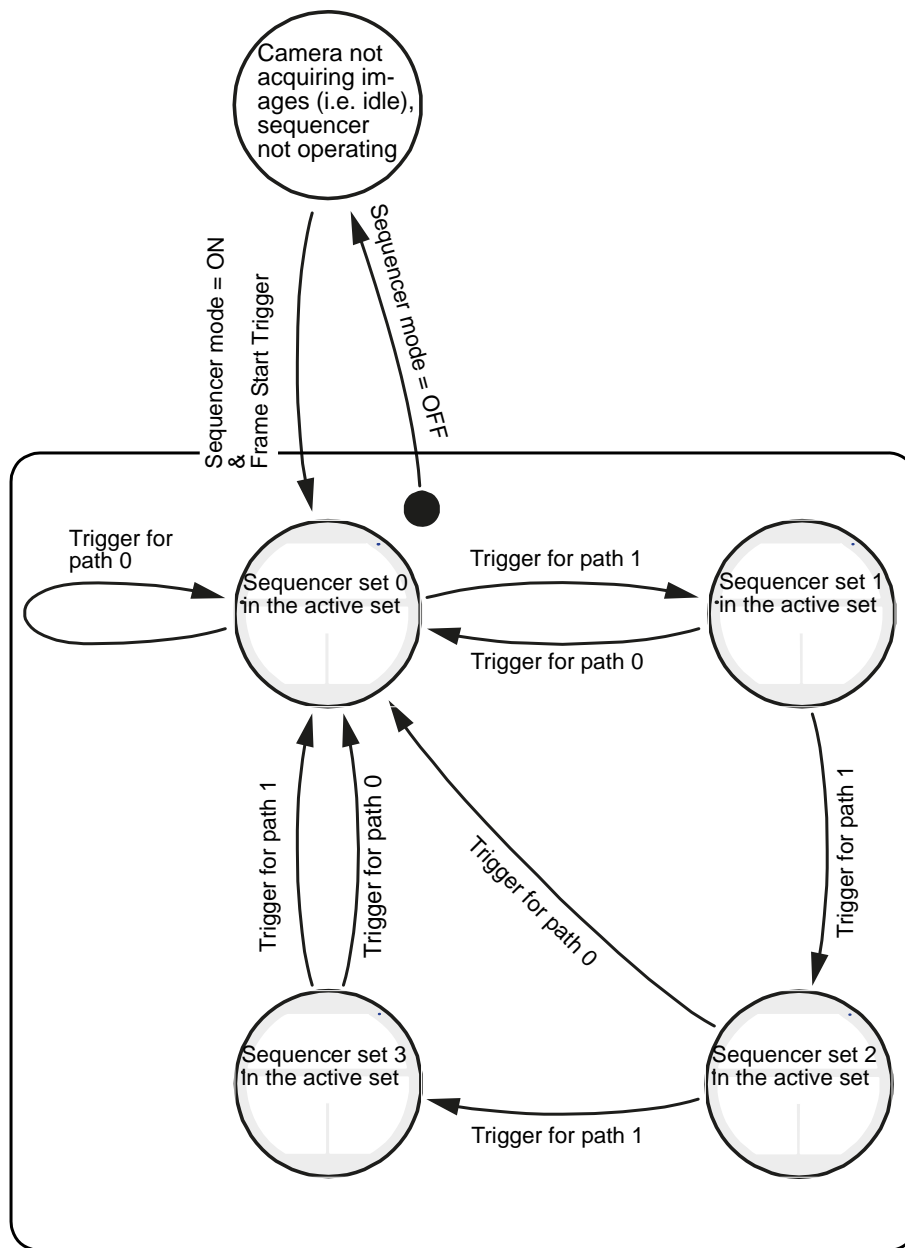

Fig. 87: State Diagram for the "Sequencer Mode" (Start and Operation; Four Sequencer Sets as an Example)
- a general overview employing a state diagram (Figure 87), and
In the state diagram (Figure 87) a total of four sequencer sets is considered. The diagram illustrates sequencer start, sequencer operation in "sequencer mode", and sequencer stop. Operation in "sequencer configuration mode" (see Section 8.6.1 on page 214) is not illustrated.
- As illustrated in Figure 87, the camera must not acquire images when the sequencer feature is enabled. Setting the sequencer mode to On will enable the sequencer feature. When a frame start trigger occurs the sequencer set configured as Sequencer Set Start will be loaded into the active set and will be used for the first image acquisition. Sequencer Set Start will always be sequencer set 0 (see Section 8.6.2.2 on page 217).